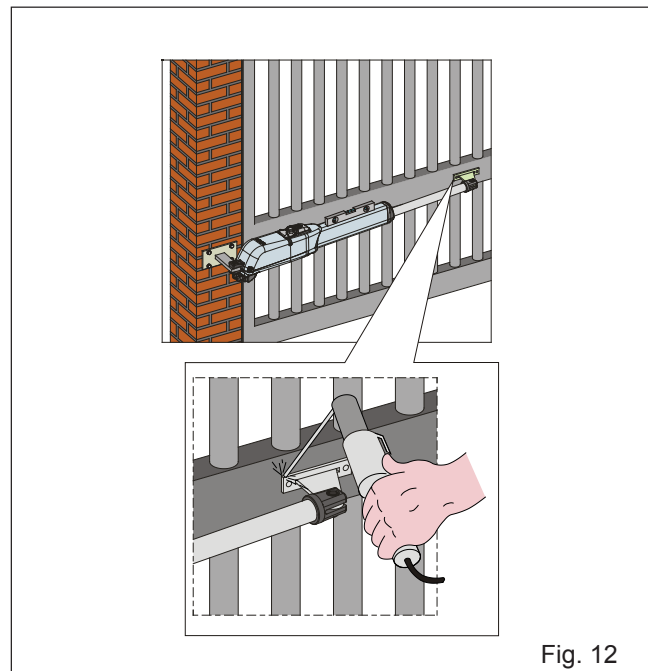

Fig. 12
9. Close the leaf and, while keeping the operator perfectly horizontal, determine the fastening point of the front bracket (Fig.12).
10. Temporarily fix the front bracket with two welding spots (Fig.12).